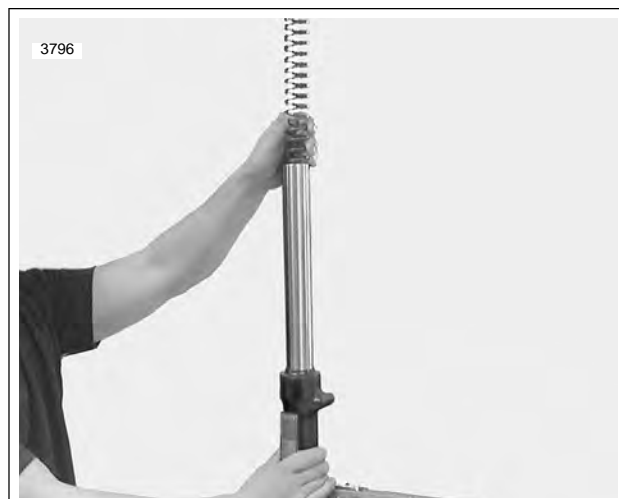

Figure 2-75. Install Rebound Spring
7. See Figure 2-75. Install spring onto damper assembly.